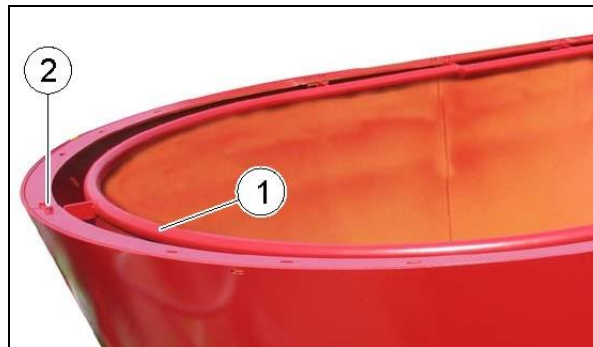

Fig. 59
- an inner overflow ring (Fig. 59) for low overhead clearances, screwed below the top edge of the container.